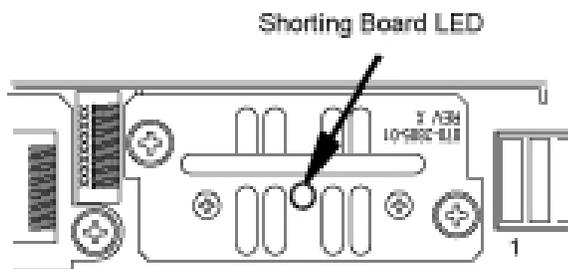

Figure 6: Shorting Board Faceplate, Maintenance Mode
2. Locate two screws securing the Shorting Board in its slot. Note the orientation of the Shorting Board LED (*Figure 6: Shorting Board Faceplate, Maintenance Mode*). Turn the screws at each corner of the board to the left until they disengage.